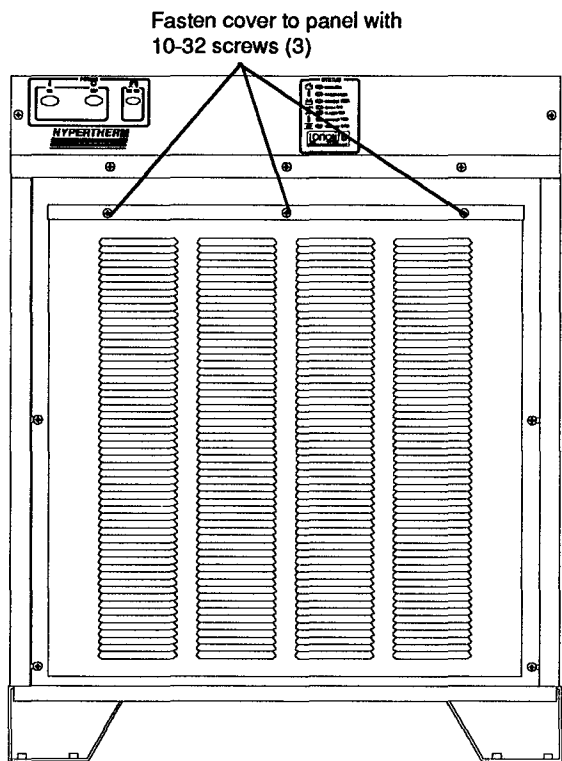

Figure 7 HT2000 with Filter Panel and Cover
2. Fasten cover to filter panel with 10-32 screws in 3 locations - see Fig. 7 or 8.